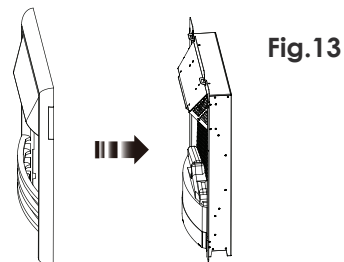
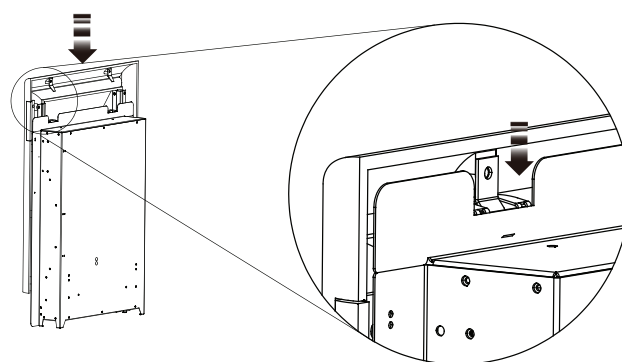
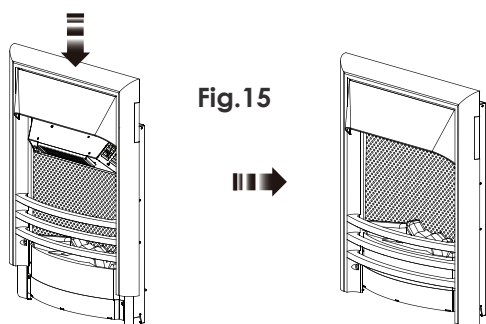

Fig.13
Fig.14
Fig.15
4. Hook the frame into the holes of bends. Ensure that the hooks engage in the holes with the weight of the fireframe being borne by the floor or hearth. (Fig. 13, Fig. 14 & Fig.15)